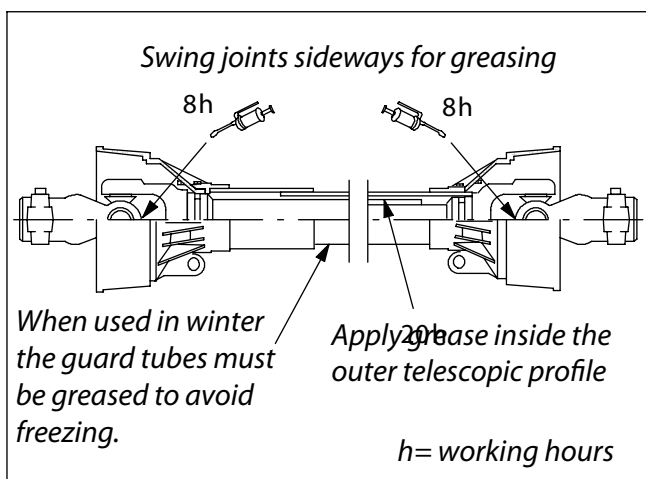

Fig. 15. P.T.O shaft lubrication
2. Grease the PTO-shaft regularly and always before use as shown in figure 15.